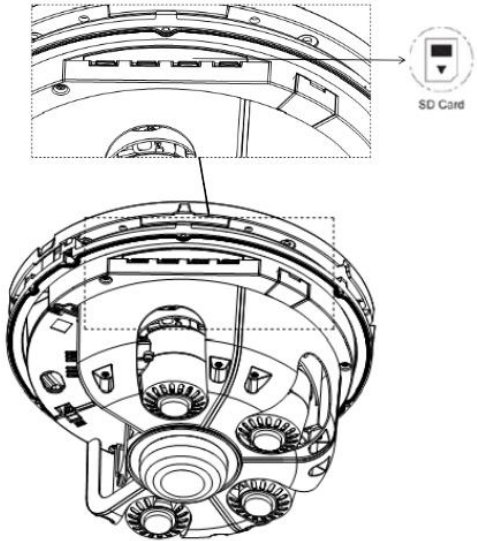

Figure 3
1. Disassemble the camera as per steps 1 to 2 in '**Disassembling the camera**' procedure and carefully insert or remove the micro-SD card (Figure 3) into or from the camera.